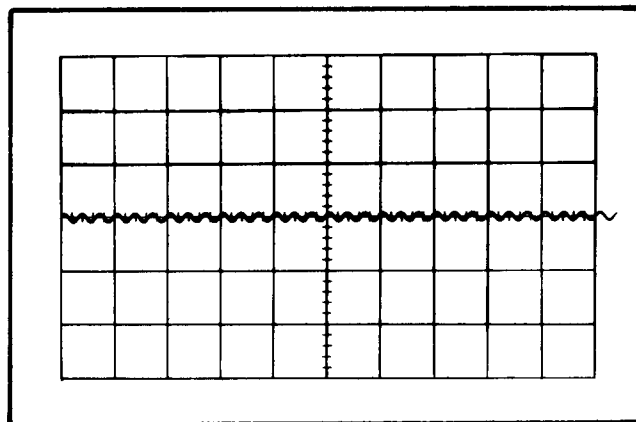

Fig. 6-41. Typical CRT display when checking low-frequency reject operation at 30 kilohertz.
- c. CHECK—Stable CRT display (see Fig. 6-41) can be obtained with the A LEVEL control.
- i. CHECK—Stable CRT display (see Fig. 6-41) can be obtained with the B LEVEL control.